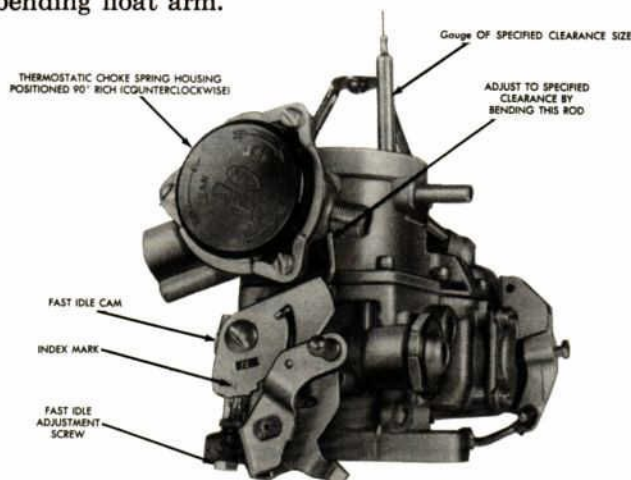

Figure 21—Fast Idle Cam Linkage
The idle adjusting screw contacts the lower edge of the fast idle cam, Figure 21. With the choke plate open, and the throttle plate seated in the throttle bore, the adjusting screw should be about one turn past just contacting the cam. As the choke plate opens, it rotates the fast idle cam and results in a slower idle rpm as the engine temperature rises and choking is reduced.
**FAST IDLE CAM**—The fast idle cam works in conjunction with the choke during the warm up period to provide a fast idle and prevent stalling. With the thermostatic spring housing rotated 90 degrees past the index, the throttle plate closed, and the adjustment screw aligned with the index mark on fast idle cam, Figure 21, the choke plate should have a clearance between the body bore of about 0.020 inch (#76 drill).